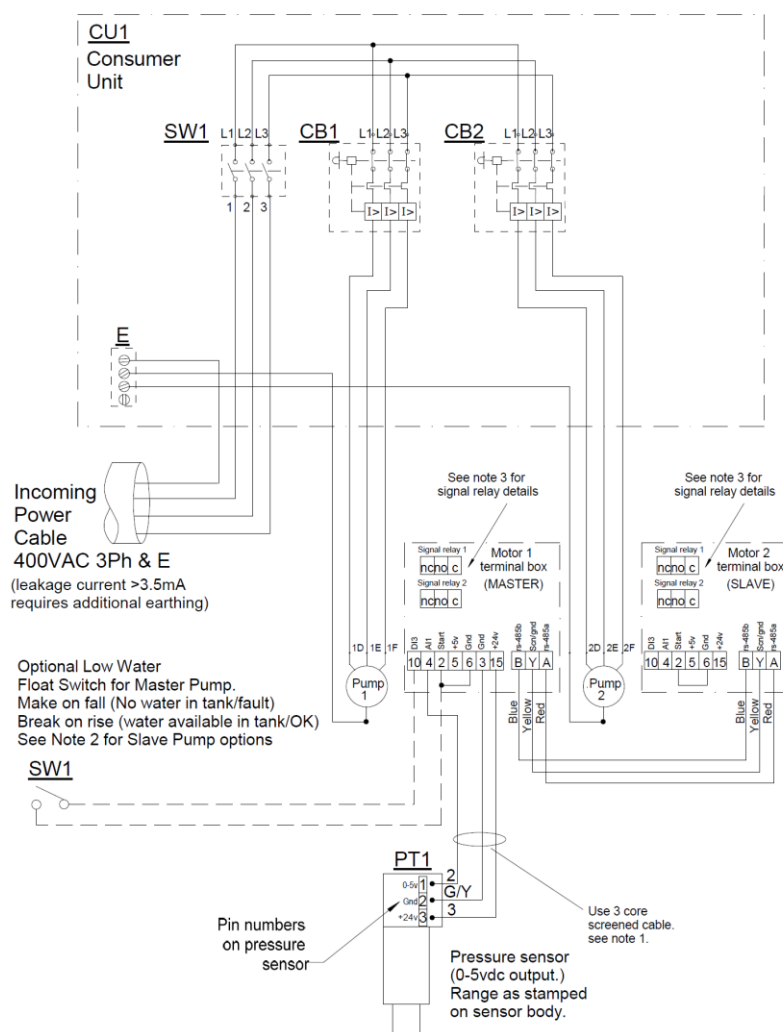

Fig. 1.8a Typical example of AMV-FB 400VAC 3 phase electrical connections
- 1.3.6.3 Connect incoming electrical mains supply to identified terminals on isolator SW1 in consumer unit or IS1 in control panel (see fig. 1.8a or b). Ensure voltages and frequency indicated on the motor nameplates and wiring diagrams correspond with supply mains data and that the supply fuse type & rating is correct for the total current rating of the equipment. Note: some 3 phase units may require Neutral supply for special applications. Refer to wiring diagram supplied with the unit or AquaTech-Pressmain.
- 1.3.6.5 Where optional remote fault signal is required connect volt free terminals in motor terminal box for AMV-FB units or in control panel for AMV-FE, AMF & HY-AV units, to remote panel. See fig 1.8a or b and wiring diagram provided.